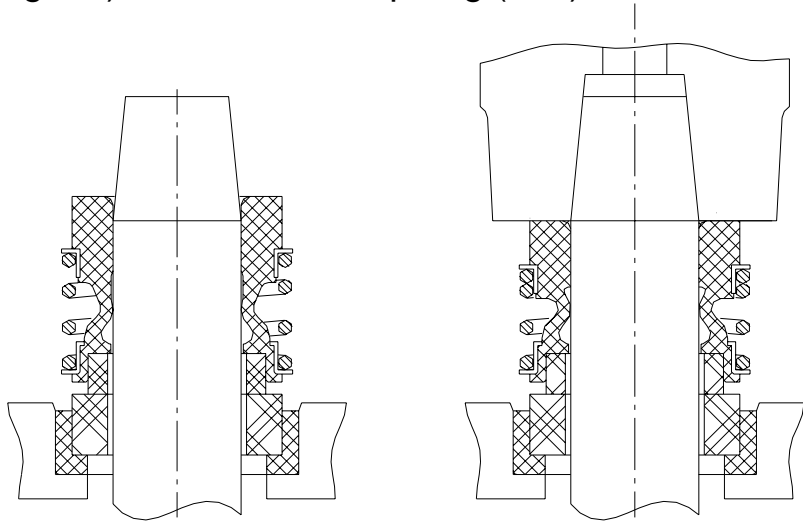
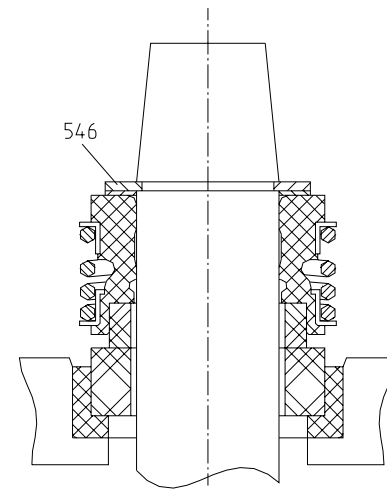

Fig. 21
Fig. 22
Wet the rotating part of the mechanical seal with soapy water. Push the whole assembly by hand over the shaft as far as possible. On size 20 mm (Fig. 21) final assembly by installing of impeller. On other sizes (Fig. 22) secure with snap ring (546).